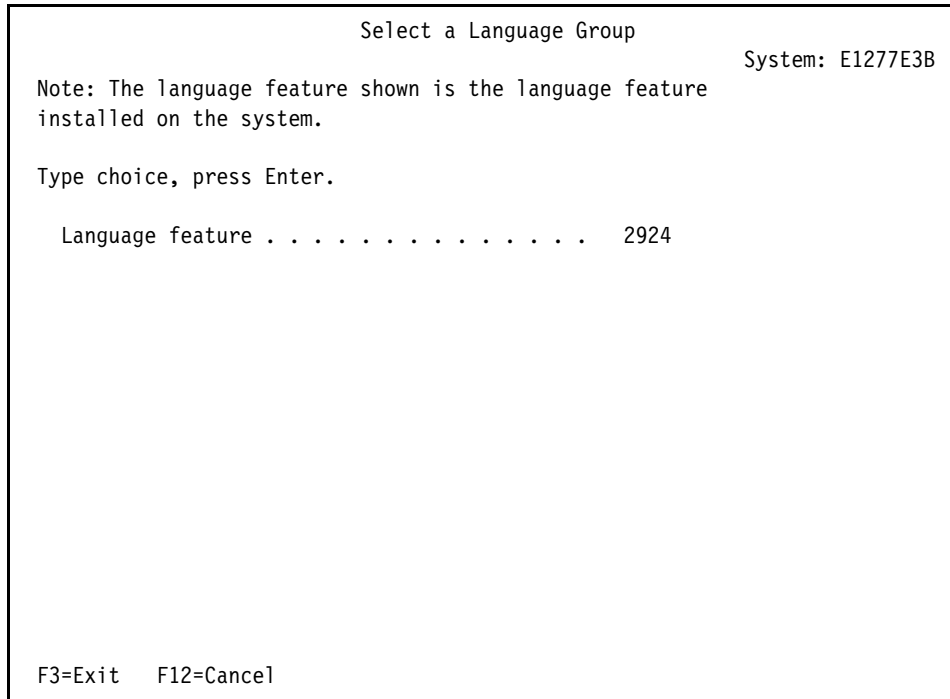

Figure 11-21 Language feature selection
11. The Select a Language Group display, which shows the primary language currently on the system, opens. This value should match the language feature number that is on the installation media. Confirm your applicable language feature, as shown in Figure 11-21. Press Enter to continue installing the operating system.